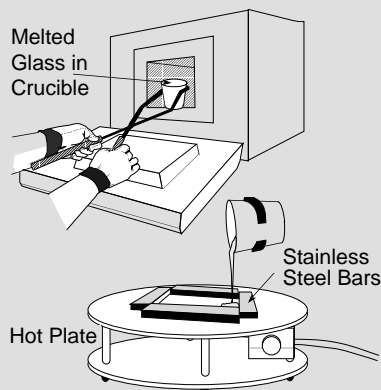

Figure 6.4. Glass Making
- b. **Glass bars** - Remove molten glass from furnace, and pour into heated bar molds as quickly as possible (see Figure 6.4). Allow this material to cool until top surface of bar is no longer dented by a slight tap from metal spatula. Dismantle bar mold rapidly, and transfer the bar to the annealing oven using a heated spatula. Soak at annealing temperature for 2 hours, then turn the oven off and oven-cool to room temperature. Do not open furnace until it has completely cooled; otherwise, the annealing process is disrupted and the 2-hour annealing must begin again. Sometimes the glass will crack or shatter if the annealing process is disrupted.